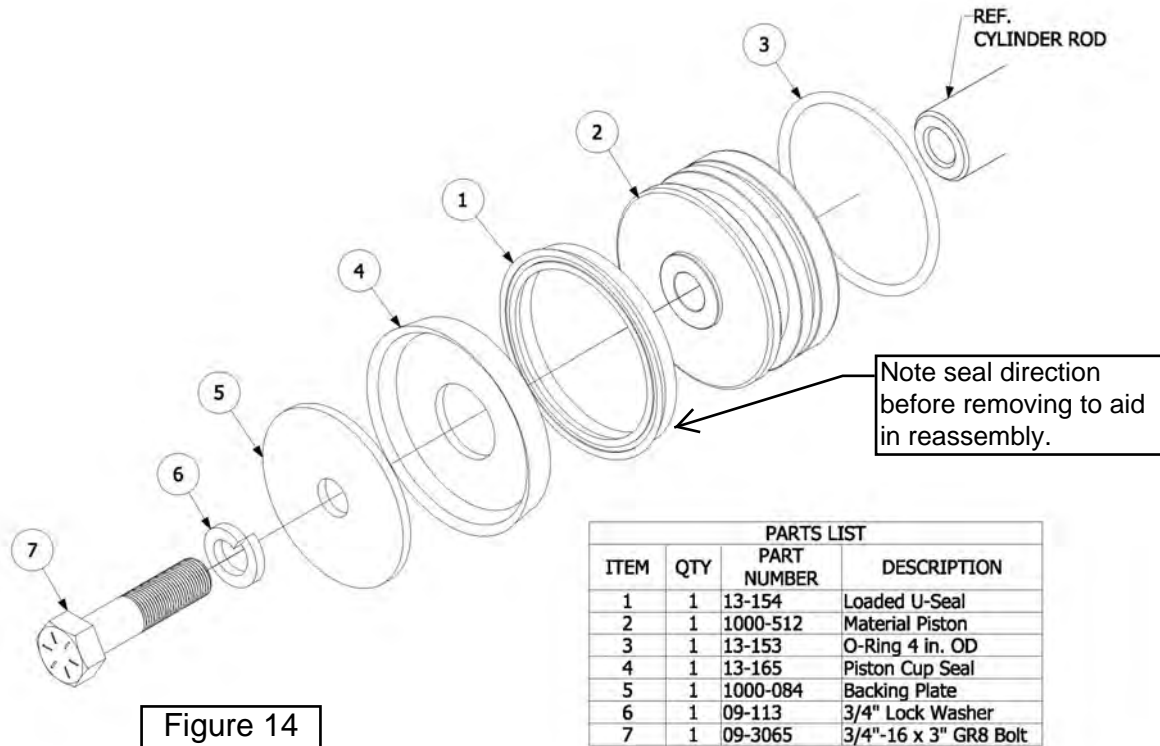

Figure 14
The abrasive nature of concrete, mortar, or other masonry materials ultimately wears parts, components, and seals. Periodically, these parts and components will need repair and/or replacement. The visual indicator for material piston cup (Figure 14, Item 4), seal (Figure 14 Item 1), and O-ring (Figure 14, Item 3) replacement is contamination visible in the water box. The HP-20 Hog Pump has two identical material piston assemblies, but only one is shown below for illustration purposes.
3. Using the manual override (Figure 11, Item 1 & 2), fully extend the hydraulic rams. The engine will bog down when the fully extended position is reached. The bolt (Figure 14, Item 7), lock washer (Figure 14, Item 6), piston cup backup washer (Figure 14 Item 5), and piston cup (Figure 14, Item 4) will be extended past the frame for easy access.
13. Remove and discard the O-ring (Figure 14, Item 3) and loaded seal (Figure 14, Item 1) from the material piston. Note seal direction to aid in reassembly.